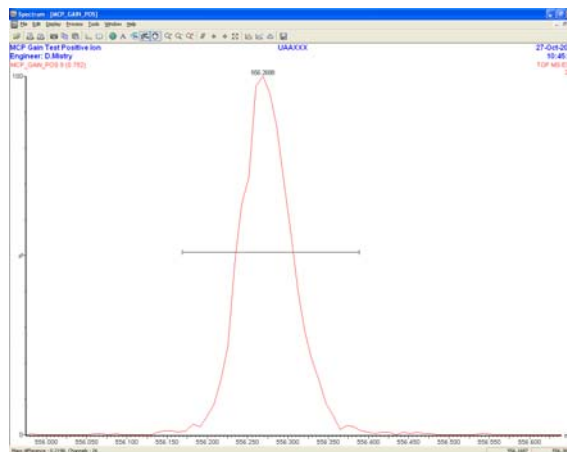

Figure 17 - Main leucine enkephalin peak
12. On the spectrum window, right-click and drag across the main leucine enkephalin peak to display the extracted mass chromatogram of that peak, as shown in Figure 17: